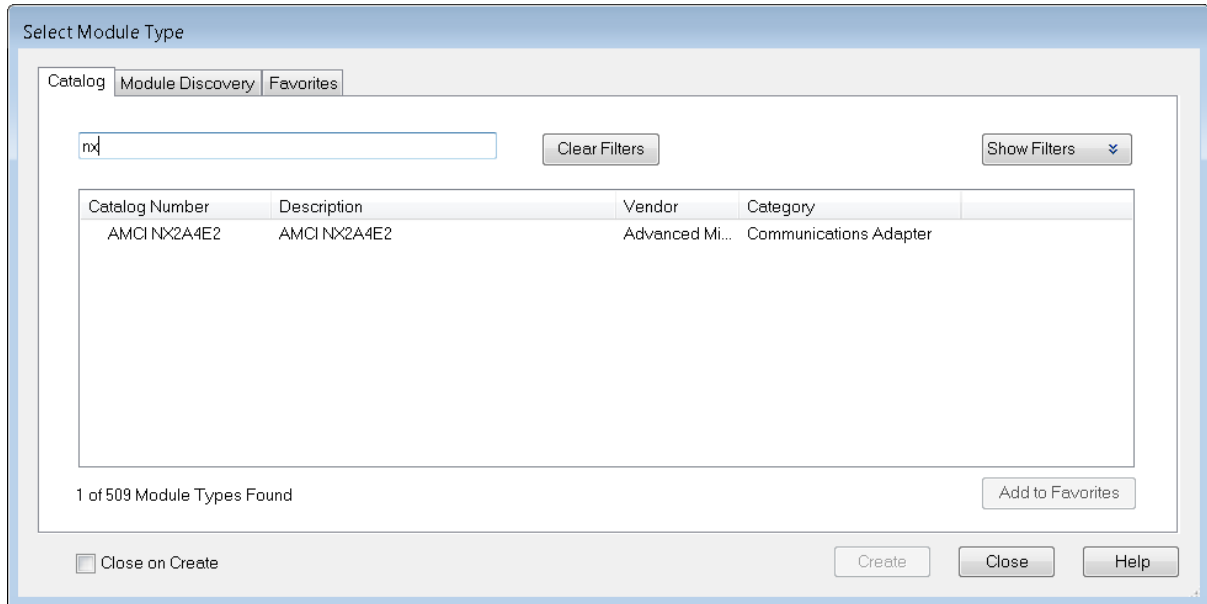

Figure T4.2 Selecting The NX2A4E2
- 3) In the resulting Select Module Type screen, type “NX” into the filter as shown in figure T4.2. This will limit the results in the Catalog Number list.